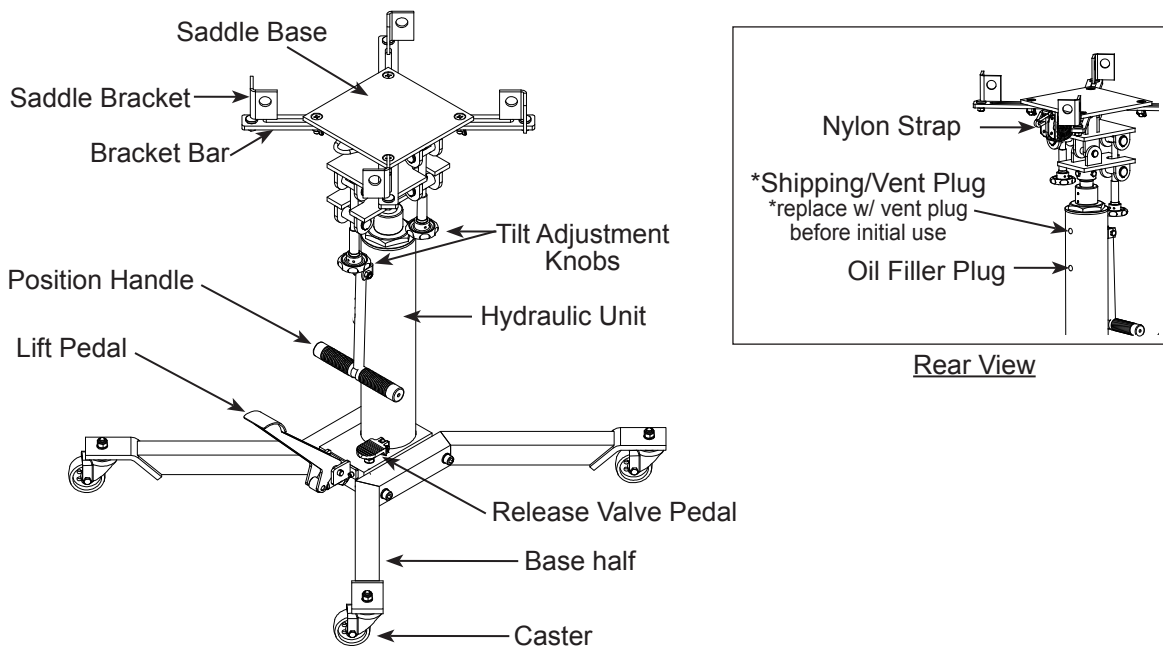

Figure 1 - Transmission Jack Components
**Assembly** (Refer to Figure 1)